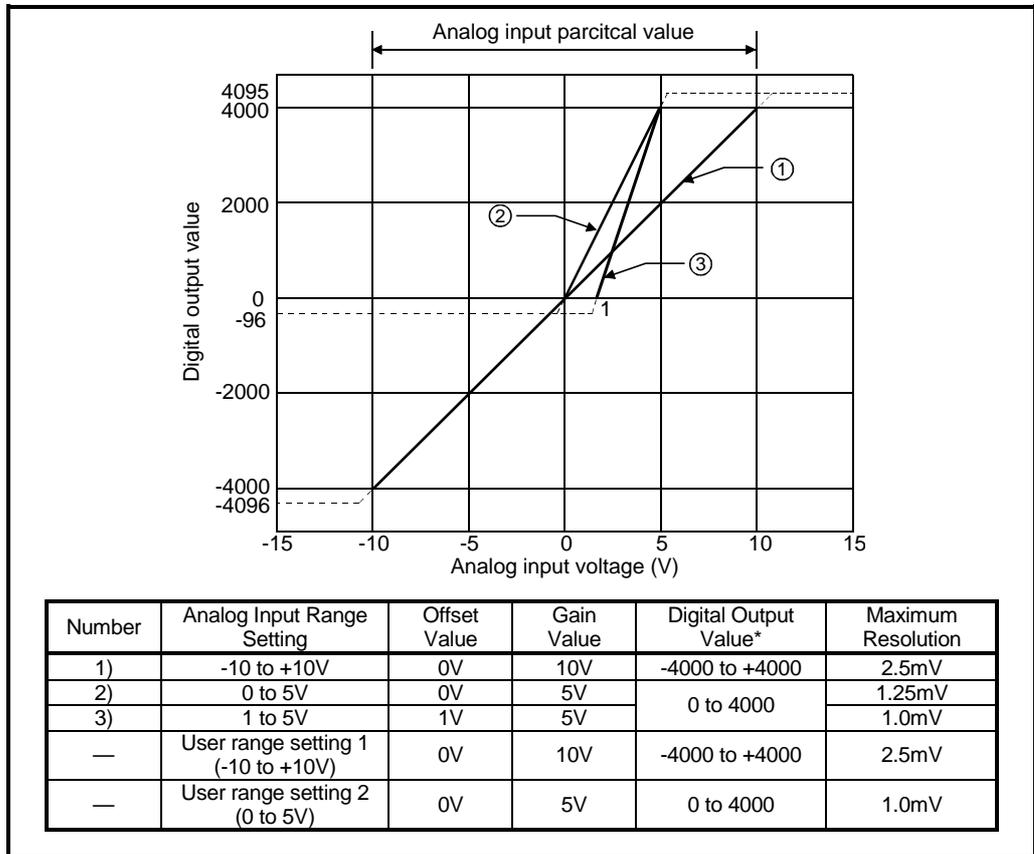

Fig. 3.1 Voltage Input Characteristic of the AJ65VBTCU-68ADV
(1) Do not input more than ±15V. The element may be damaged.
(2) If the analog input provided corresponds to the digital output value* beyond its range, the digital output value is fixed to the maximum or minimum. <ul style="list-style-type: none"> • For 0 to 4000, the digital output value is within the range -96 to 4095. • For -4000 to +4000, the digital output value is within the range -4096 to +4095.
(3) Within the analog input and digital output scopes of each input range, the maximum resolution and accuracy are within the performance specification range. Outside those scopes, however, they may not fall within the performance specification range. (Avoid using the dotted line part in Fig. 3.1.)
(4) Set the offset and gain values of the user range setting within the range satisfying the following conditions. <ul style="list-style-type: none"> (a) Setting range when user range setting 1 is selected: -10 to +10V (b) Setting range when user range setting 2 is selected: 0 to 5V (c) (Gain value) > (Offset value) <p>If you attempt to make setting outside the setting range of (a) or (b), the "RUN" LED flickers at 0.5s intervals. Set the values within the setting range.</p> <p>If you attempt to make setting outside the setting range of (c), the "RUN" LED flickers at 0.5s intervals. Make setting again.</p>